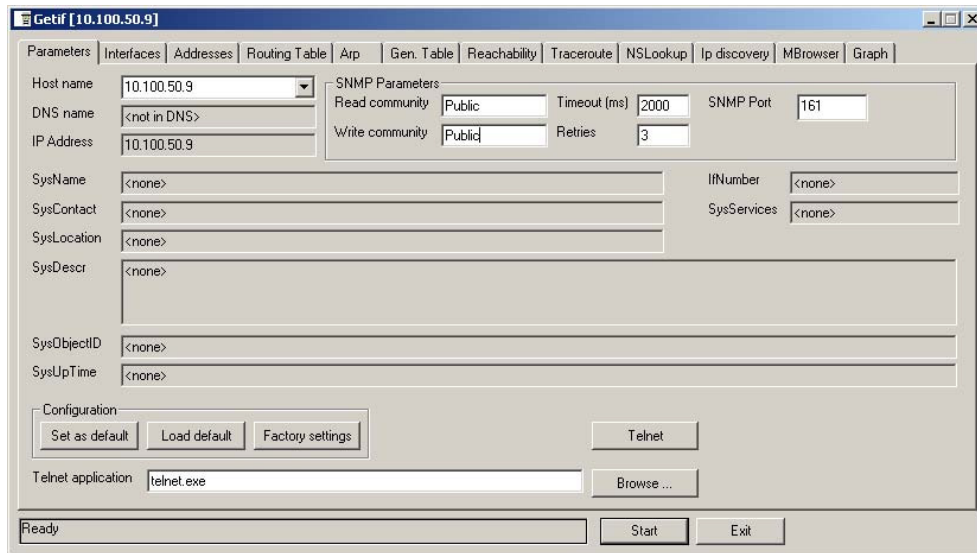

Figure 10: Getif MBrowser Window
3. Select the unit IP address and community strings in the relevant text boxes on the Parameters tab (see Figure 10) and then click the Start button.